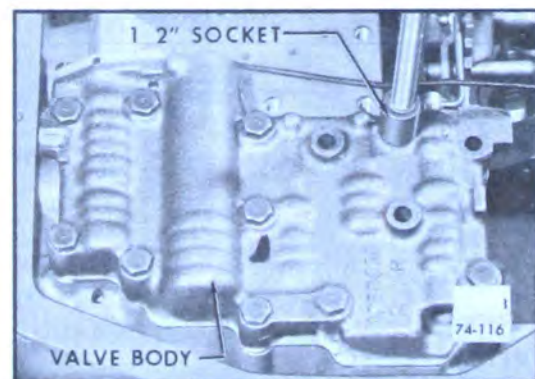

Figure 74-338
4. Install eleven (11) valve body to case retaining bolts. Torque bolts in random sequence to 8-11 lb. ft. See Figure 74-338.